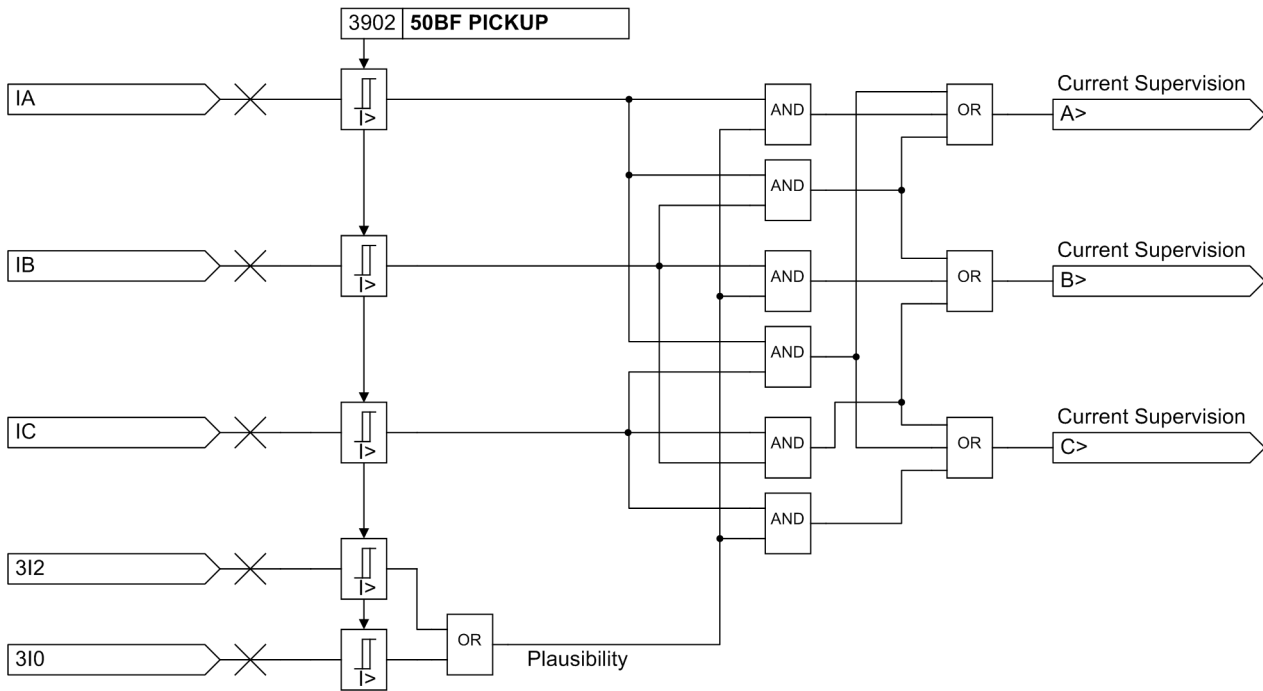
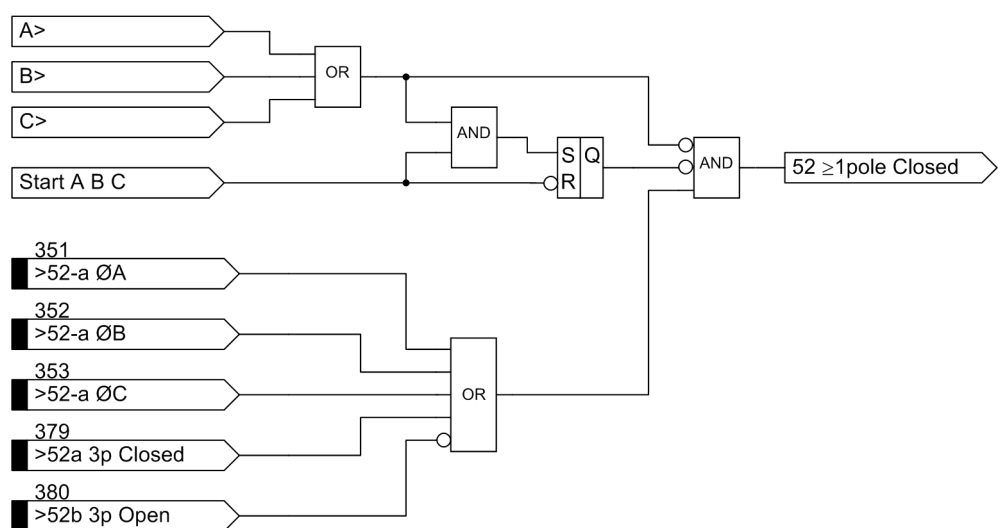
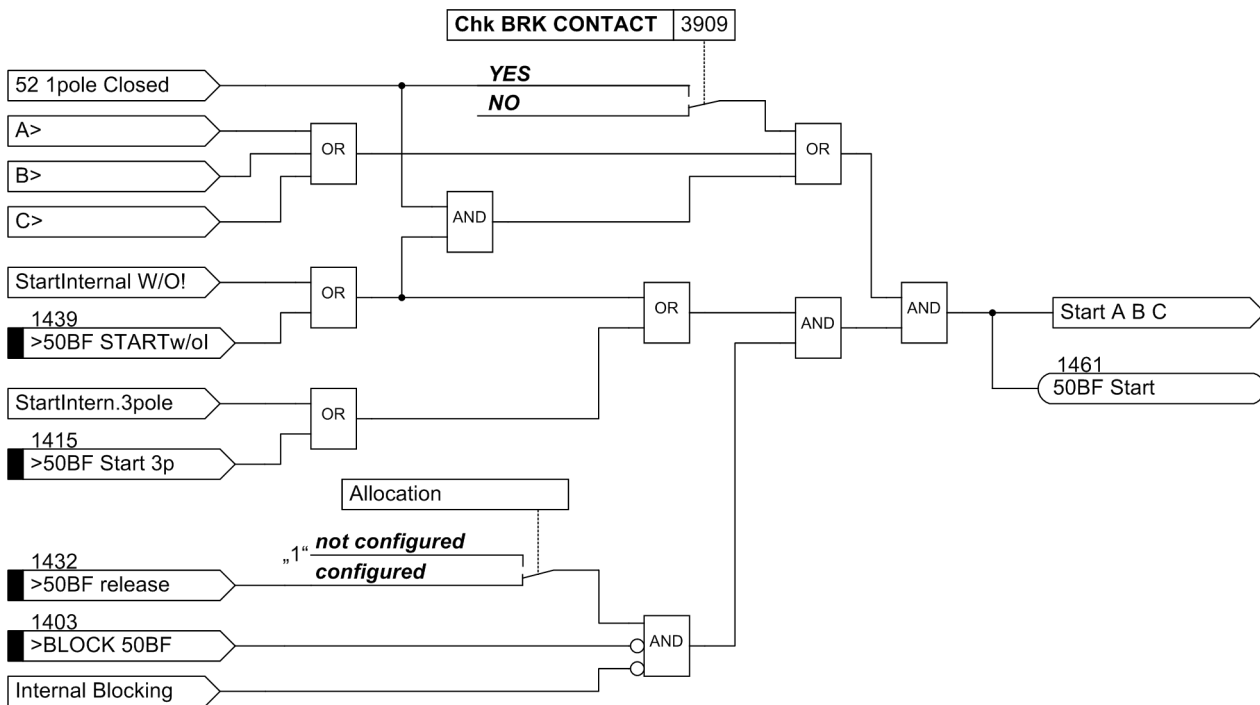
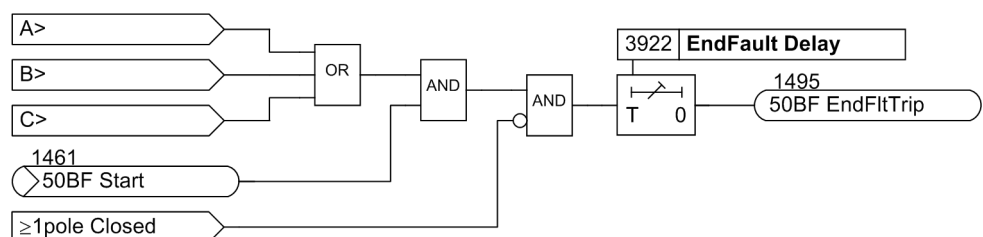

Figure 2-122 Current flow monitoring with plausibility currents $3 \cdot I_0$ and $3 \cdot I_2$
Figure 2-124 Creation of signal "CB ≥ any pole closed"
Figure 2-125 Breaker failure protection with common phase initiation
Figure 2-134 Operation scheme of end fault protection
The currents are monitored and compared with the set threshold. Besides the three phase currents, two further current detectors are provided in order to allow a plausibility check (see Figure 2-122).
It is possible to disable the auxiliary contact criterion. If you set the parameter switch **Chk BRK CONTACT** (Figure 2-125 top) to **NO**, the breaker failure protection can only be started when current flow is detected. The position of the auxiliary contacts is then not evaluated even if the auxiliary contacts are connected to the device.
required in these cases to check the correct response of the circuit breaker. For this purpose, the binary input ">50BF STARTw/oI" No. 1439 is provided (Figure 2-125 left). This input initiates the breaker failure protection even if no current flow is detected.
Figure 2-125 shows the operating principle. When the trip signal appears from any internal or external feeder protection and at least one current flow criterion (according to Figure 2-122) is present, the breaker failure protection is initiated and the corresponding delay time(s) is (are) started.
If the current criterion is not fulfilled for any of the phases, the position of the circuit breaker auxiliary contact(s) is queried provided that this is available according to Figure 2-124. If the circuit breaker poles have individual auxiliary contacts, the series connection of the three normally closed (NC) auxiliary contacts is used. The circuit breaker has operated correctly after a three-pole trip command only when none of the phases carries current or when all three NC auxiliary contacts have closed.
Figure 2-124 illustrates how the internal signal "52 1 pole Closed" is created (see Figure 2-125 left) if at least one circuit breaker pole is closed.
The end fault is recognized when the current continues flowing although the circuit breaker auxiliary contacts indicate that the breaker is open. An additional criterion is the presence of any breaker failure protection initiate signal. Figure 2-134 illustrates the functional principle. If the breaker failure protection is initiated and current flow is detected (current criteria “A>, B>, C>” according to Figure 2-122), but no circuit breaker pole is closed (auxiliary contact criterion “ ≥ 1 pole closed”), then the timer **EndFault Delay** is started. At the end of this time an intertrip signal is transmitted to the opposite end(s) of the protected object.
Additionally, the current criteria (from Figure 2-122) are processed. Pole discrepancy can only be detected when current is not flowing through all three poles (<3), i.e. through only one or two poles. When current is flowing through all three poles, all three poles must be closed even if the breaker auxiliary contacts indicate a different status.